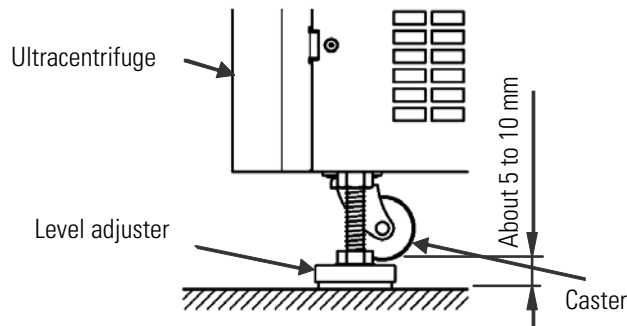

Figure 5-2. Leveling Adjustment
(1) While referring to figure 5-2, turn the level adjusters with a spanner until the casters are to 5 to 10 mm off the floor.